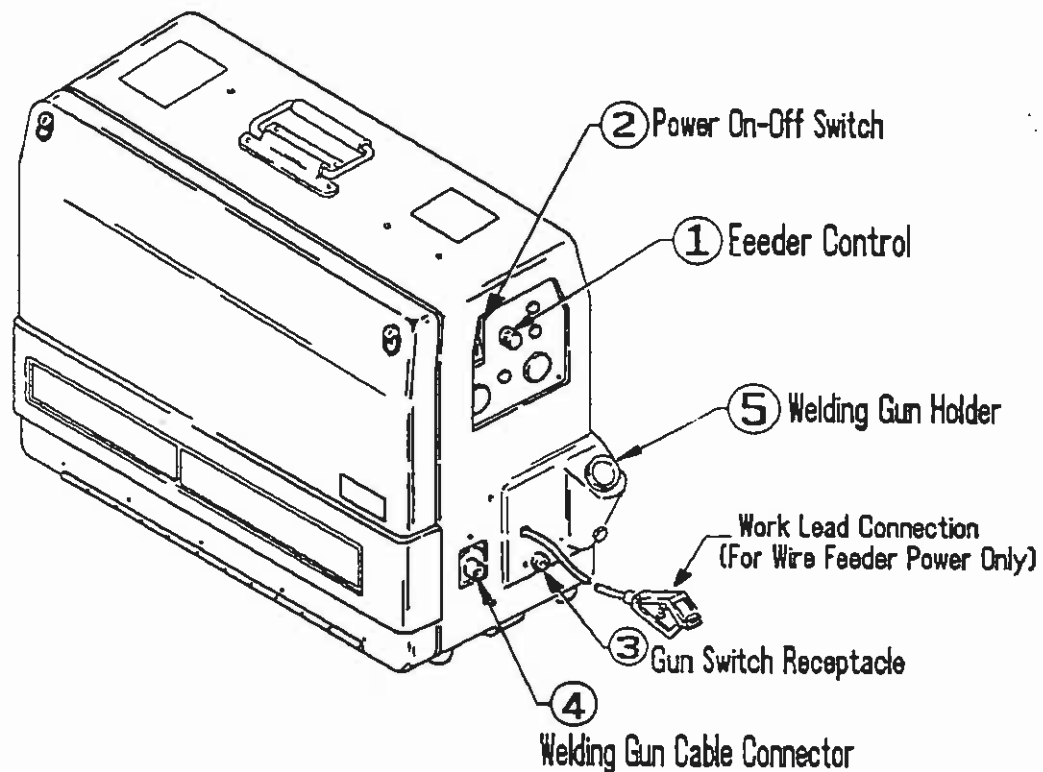
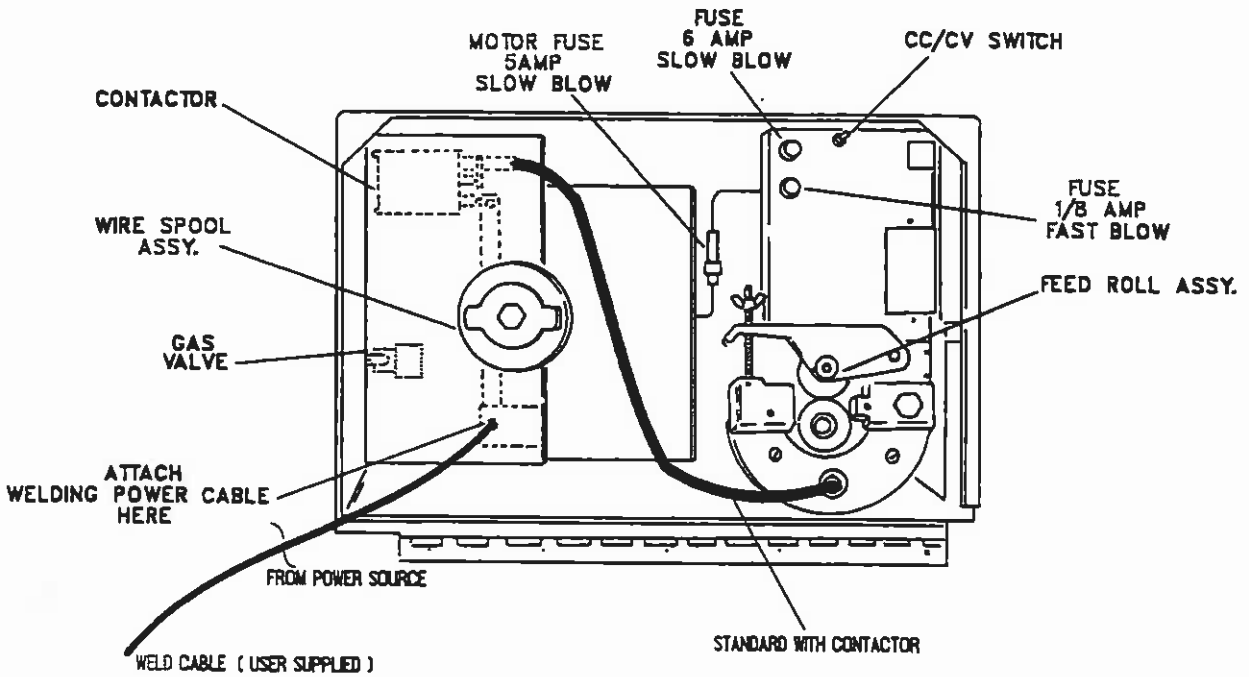

Figure 1, Controls - Connections (Front End)
Figure 3, Internal Components (Feedhead Side)
See Figure 3 for details
1. Make the proper welding cable connections between the wire feeder terminal (electrode) to power source and work connection to power source. See Figure 3. Connect feeder work lead (Figure 1) to work.
2. Attach the gun and cable to the wire feeder at the welding gun cable connector (See Figure 1).
4. Turn the welding machine ON, and set the Wire Feed Speed Control to "5." See Figure 1. Remove contact tip from welding gun. Press the gun switch until wire feeds out past the gun nozzle. Place contact tip over the wire and screw into place and tighten. Cut wire off at about 1/4 inch (6 mm) from the nozzle.